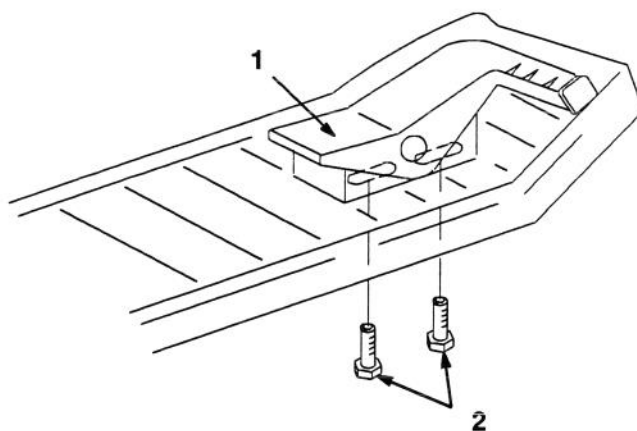

Figure 9
After adjusting the hydro neutral position it is necessary to check the traction control pedal. While pressing the control pedal (Fig. 9) full forward and full reverse it must not contact the footrest pad before hitting the stop(s) at the transaxle.
2. Loosen the capscrews below the right footrest. Slide the pedal in the slots away from the direction that made contact with the footrest (Fig. 9).